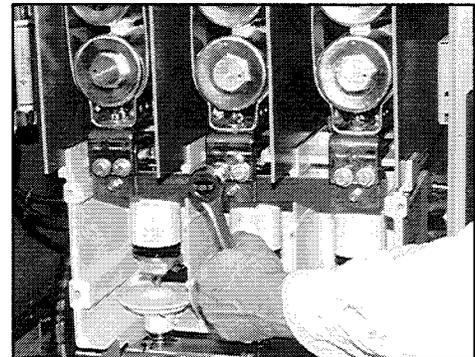

Fig. 36 Removing Fuse Cartridge
1. Loosen the front two sems bolts (Fig. 36).
3. Lower the front end bus into the two sems bolts (Fig. 36) then tighten and torque the sems bolts to 10-15 ft-lbs.